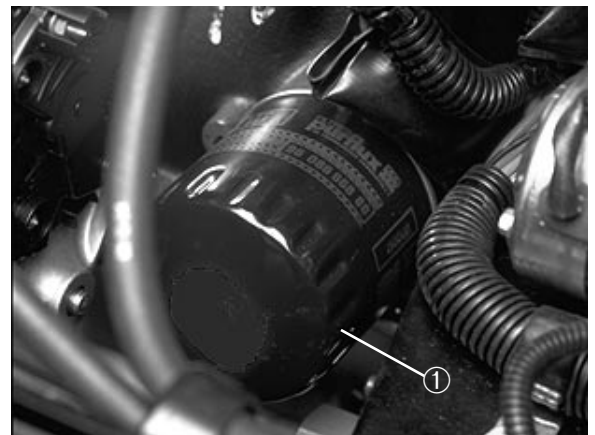

Figure 36
2. Remove the oil filter (Fig. 36). Apply a light coat of clean oil to the new filter seal before screwing it on. **DO NOT OVERTIGHTEN.**